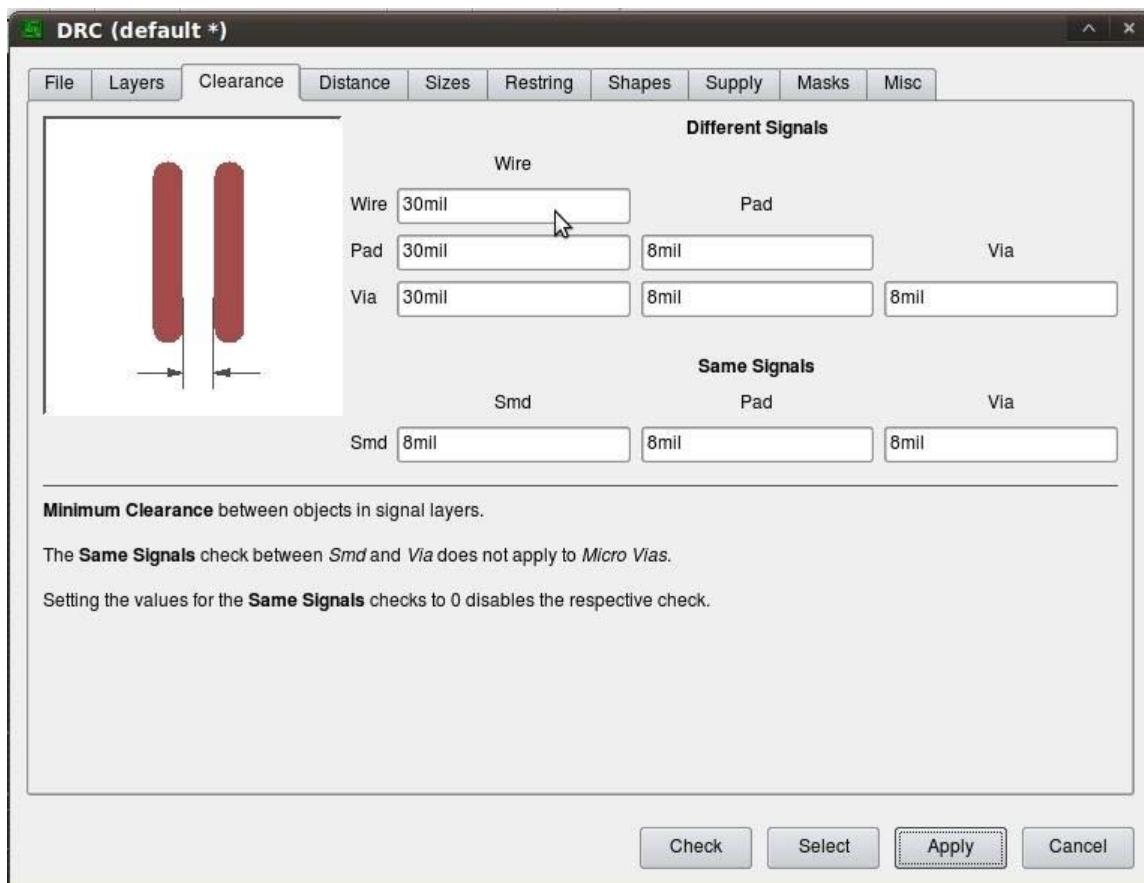

Figure 6-13. Changing the clearances enables more room between traces and the Ground plane.
7. *Set clearances:* Now you need to set the clearances of the Ground plane so the traces are not too close together. Changing the wire clearance makes transferring the design to the copper PCB much easier. Select Tools DRC from the menu and then go to the Clearance tab. From there, change the first three boxes (under the Wire column) from 8mm to 30mm as shown in Figure 6-13.